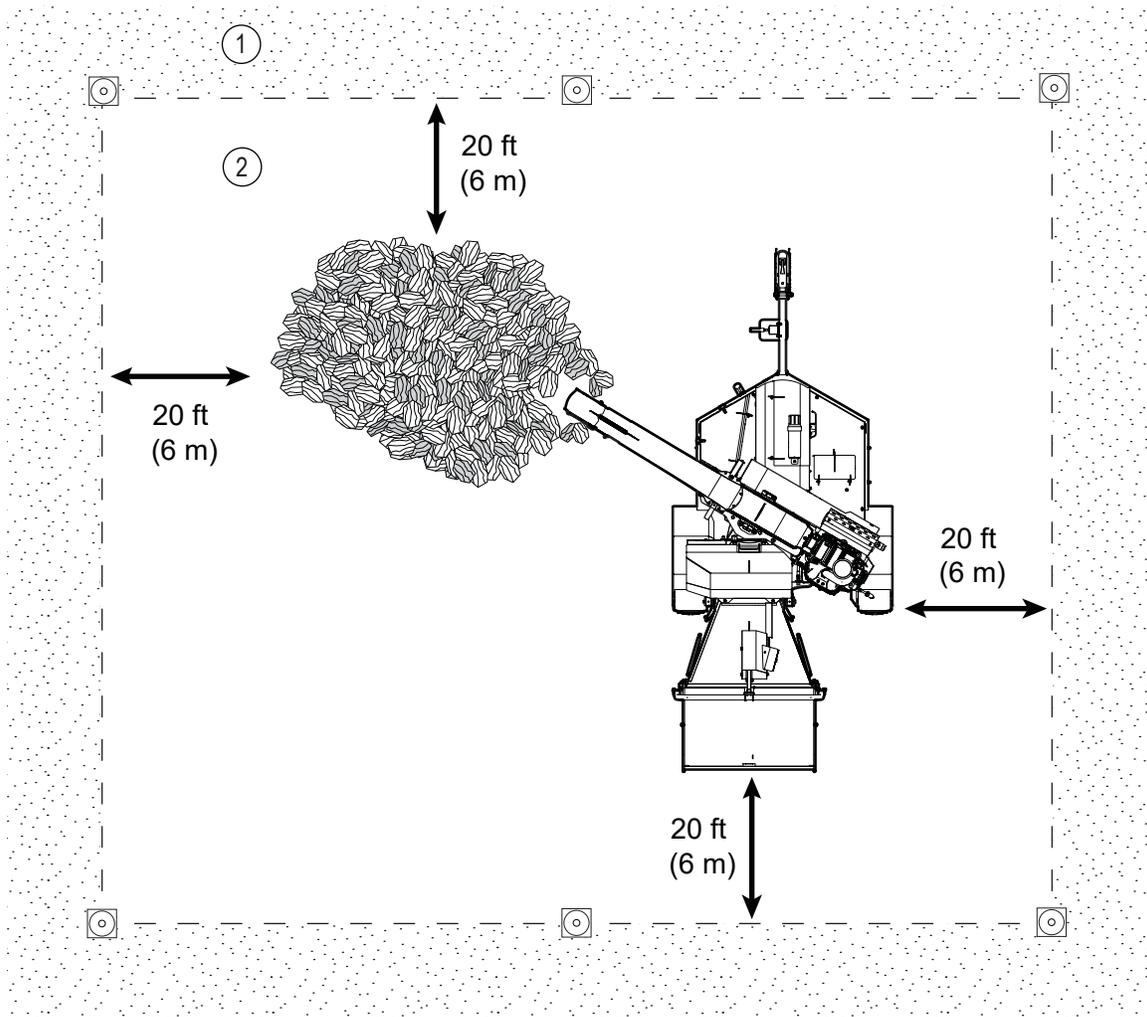

Figure 2—Example layout of a safe work area
- Use safety cones to identify the work zone perimeter. The work zone perimeter should be a minimum of 20 ft (6 m) away from any hazard in the work zone. The area outside the work zone perimeter is the safe zone. For more information, see *Figure 2 on page 12*.